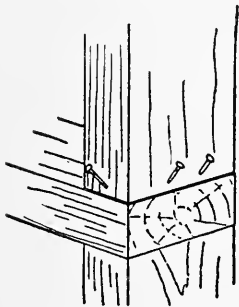

FIG. 31.—Toe-nailing.
**Toe-nailing** consists in driving nails diagonally into a piece of wood. It is used in fastening the ends of uprights, as shown in Fig. 31, where the nails cannot be driven in any other way, and also where there is danger of a board springing. You will often find it convenient to use this form of nailing